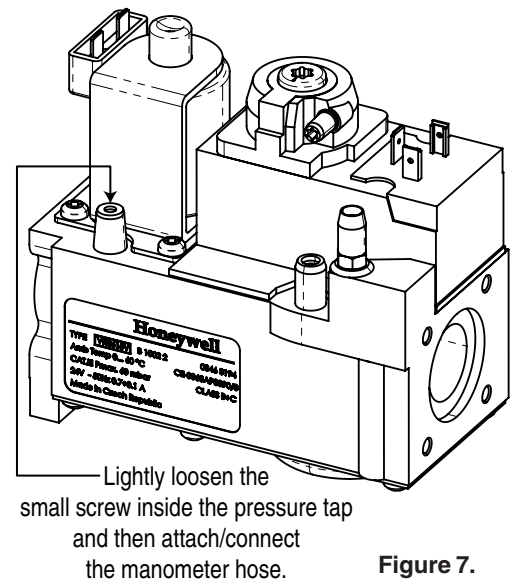

Figure 7.
2. Loosen the small screw inside the pressure tap as shown in Figure 7.